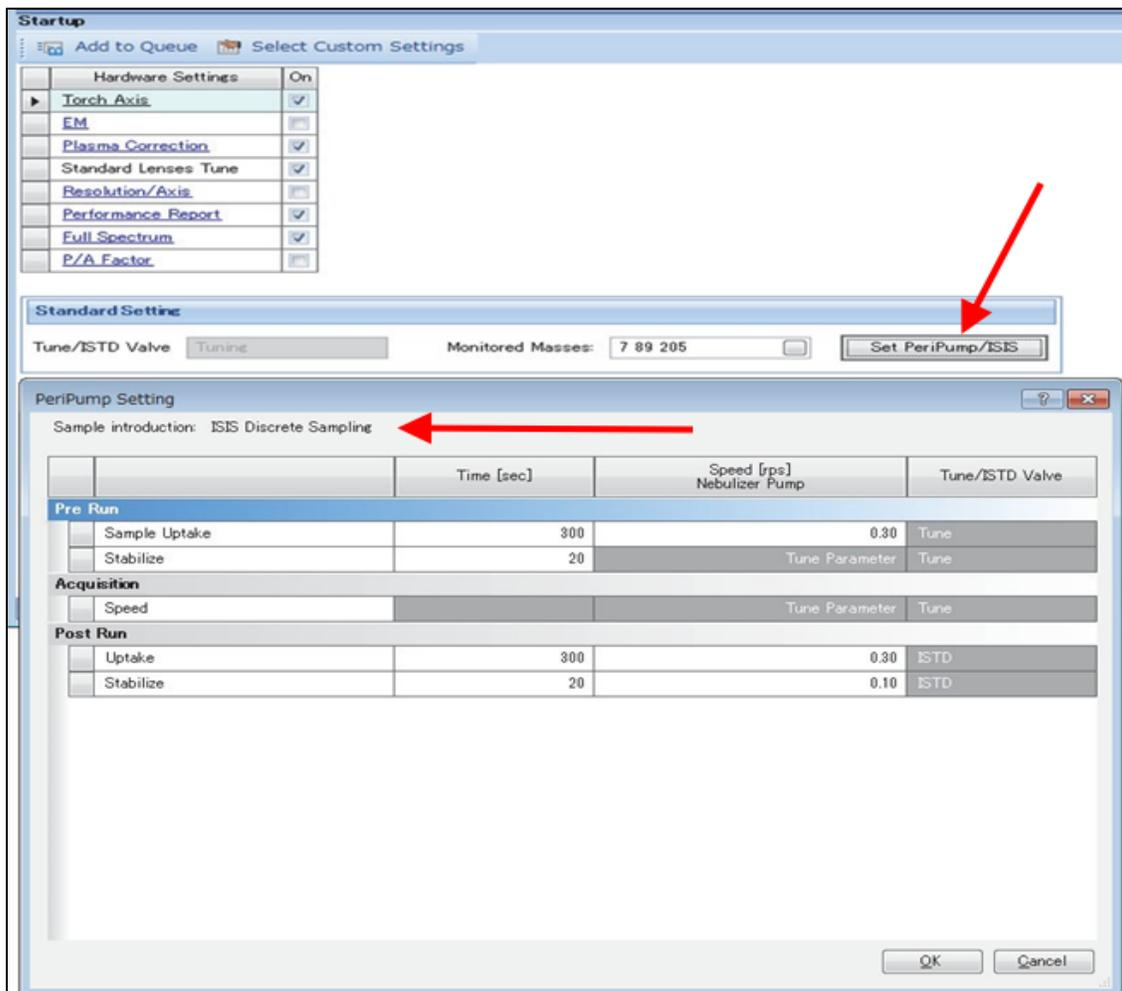

Figure 4
2. In the **PeriPump** Setting dialog box, select **ISIS Discrete Sampling** from the **Sample Introduction** list box. Ensure the default values in Figure 4 are populated correctly.